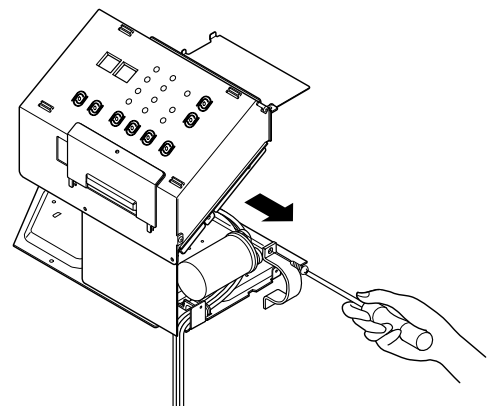

Figure 12
2. Remove 1 screw and disconnect the leads which connected to the box type capacitor. (See Figure 12)